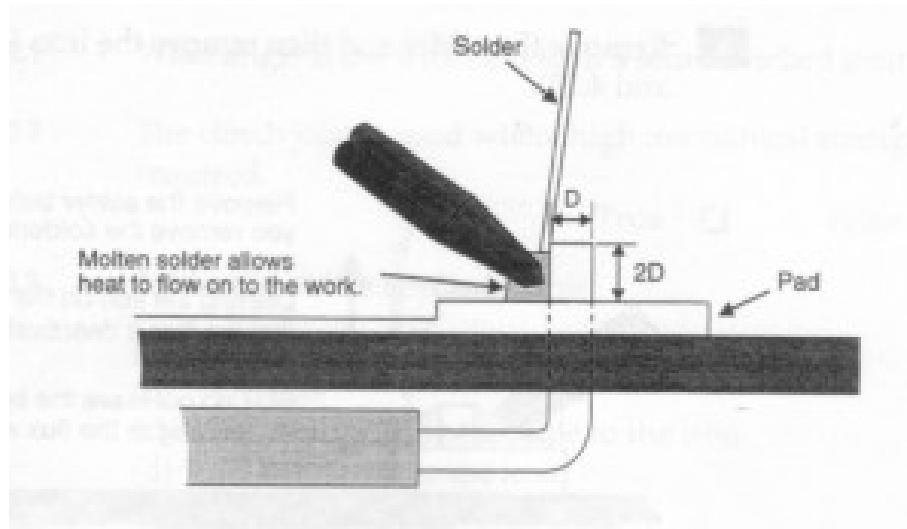

Fig. C1 - Form a heat bridge
2. Place a hot and clean iron tip against both the lead and pad as in Fig. C1.